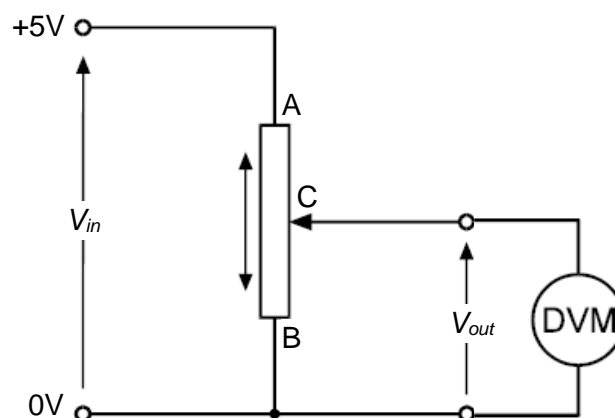

Figure B1. Potentiometer circuit
If the potentiometer wiper is connected to a moving system, any movement in that system will cause the wiper to move and change the output voltage. This signal provides a direct measurement of position or change in position. Hence, although a potentiometer, it is used as a sensor for measuring linear displacement. A potentiometer circuit is shown in Figure B1.
1. Use the patching leads to connect the circuit in Figure B1.
3. In steps of 1 mm, (one complete rotation of the rotary scale), move the Linear Assembly to the left over its full range of travel and record corresponding meter readings to complete Table B1 (linear potentiometer column Figure B1). Be careful to adjust the control in one direction only throughout the procedure.